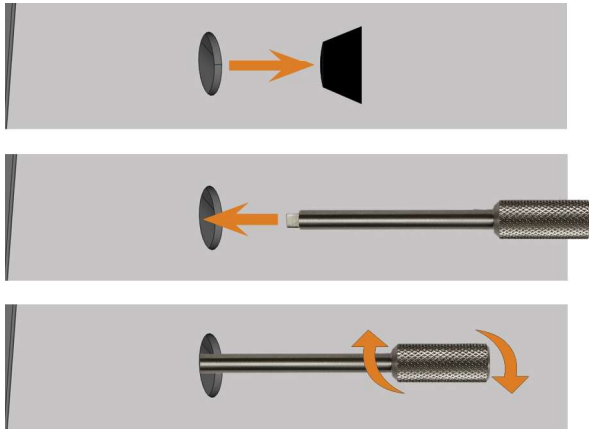

FIG. 25 - USING THE KEY FOR THE EMERGENCY RELEASE
2. Deactivate the safety interlock of the working chamber door, as shown in the figure (🔗 Fig. 25 - on the next page):